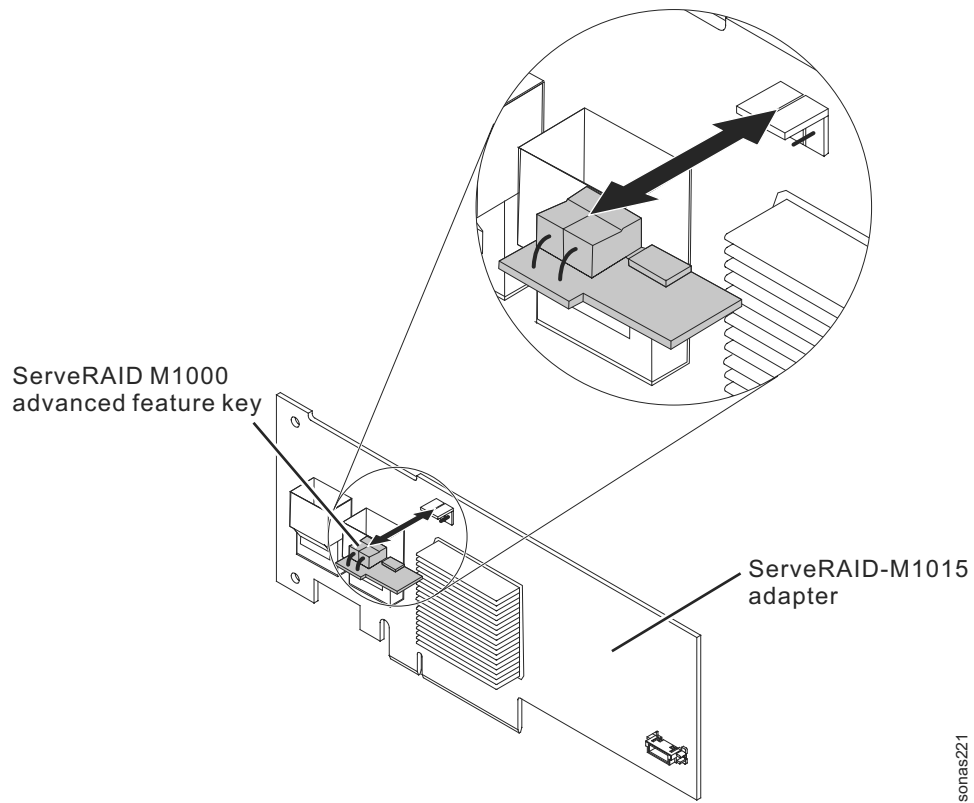
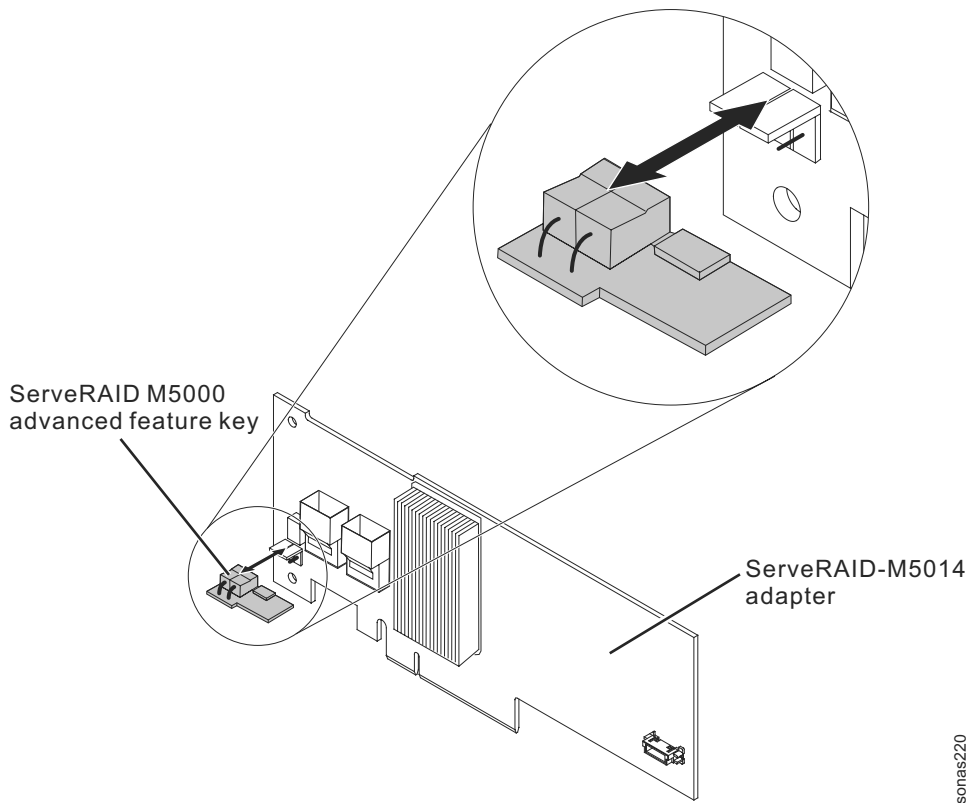

Figure 28. ServeRAID M1000 advanced feature key and M1015 adapter
Figure 29. ServeRAID M5000 advanced feature key and M5014 adapter
4. Grasp the feature key and lift to remove it from the connector on the ServeRAID adapter. See Figure 28 on page 129 and Figure 29 on page 130.